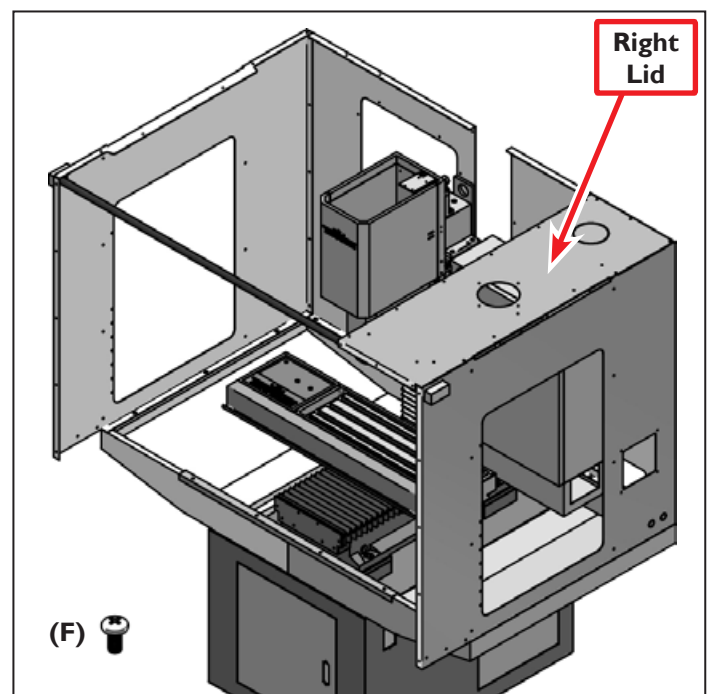

Figure 8
20. Place the upper Right Lid (E.29) on top of the right rear panel, right side panel and door support rods (see **Figure 8**). Loosely fasten with (F) screws along the rear and side panels.